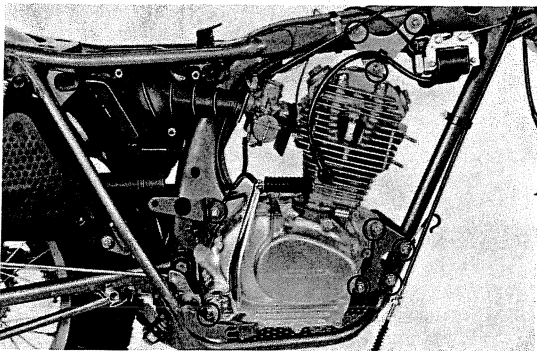

Fig. 28 ○ = Engine hanger bolts
- 12) Remove the nuts from the engine hanger bolts. Lift the rear of the engine just enough to remove load from the hanger bolts; pull off the bolts. (Fig. 28) Place the engine on a clean surface or work bench.